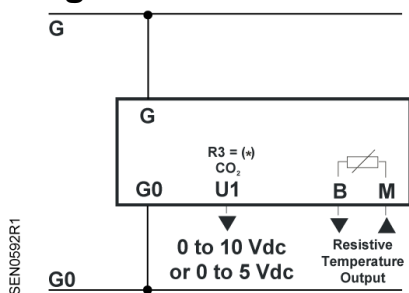

Figure 7. QPM2180.
- f. Connect the field wiring to the sensor terminal block on the base. See Figure 7 through Figure 10 for wiring diagrams.